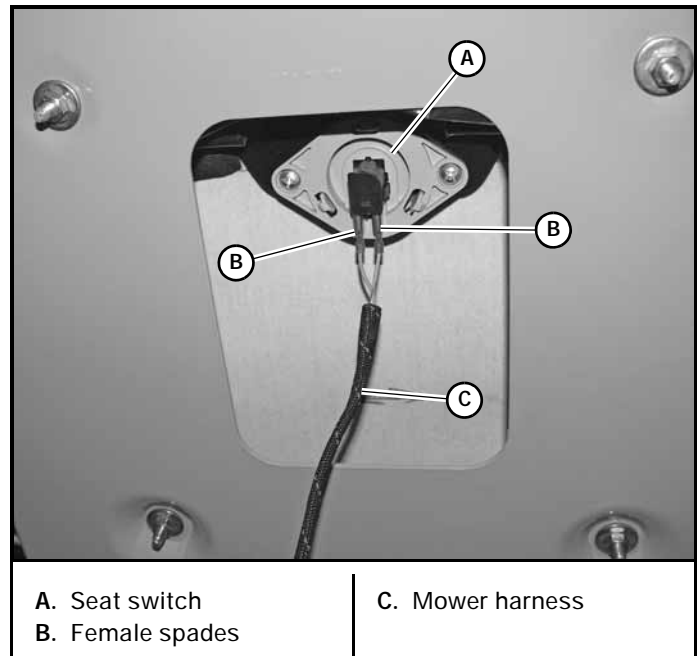

Figure 4-1
- Bypass the seat switch by connecting the two mower harness female spades together. Figure 4-1
- Reconnect them to the seat switch. This must be completed so that the safety circuit is functioning properly. Figure 4-1